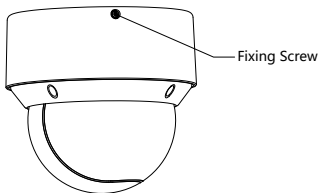

Figure 2-42 Tighten the Fixing Screw
After DE4AxxxI series (IR) PTZ camera is installed, tighten the fixing screw with a screwdriver as shown in Figure 2-42.